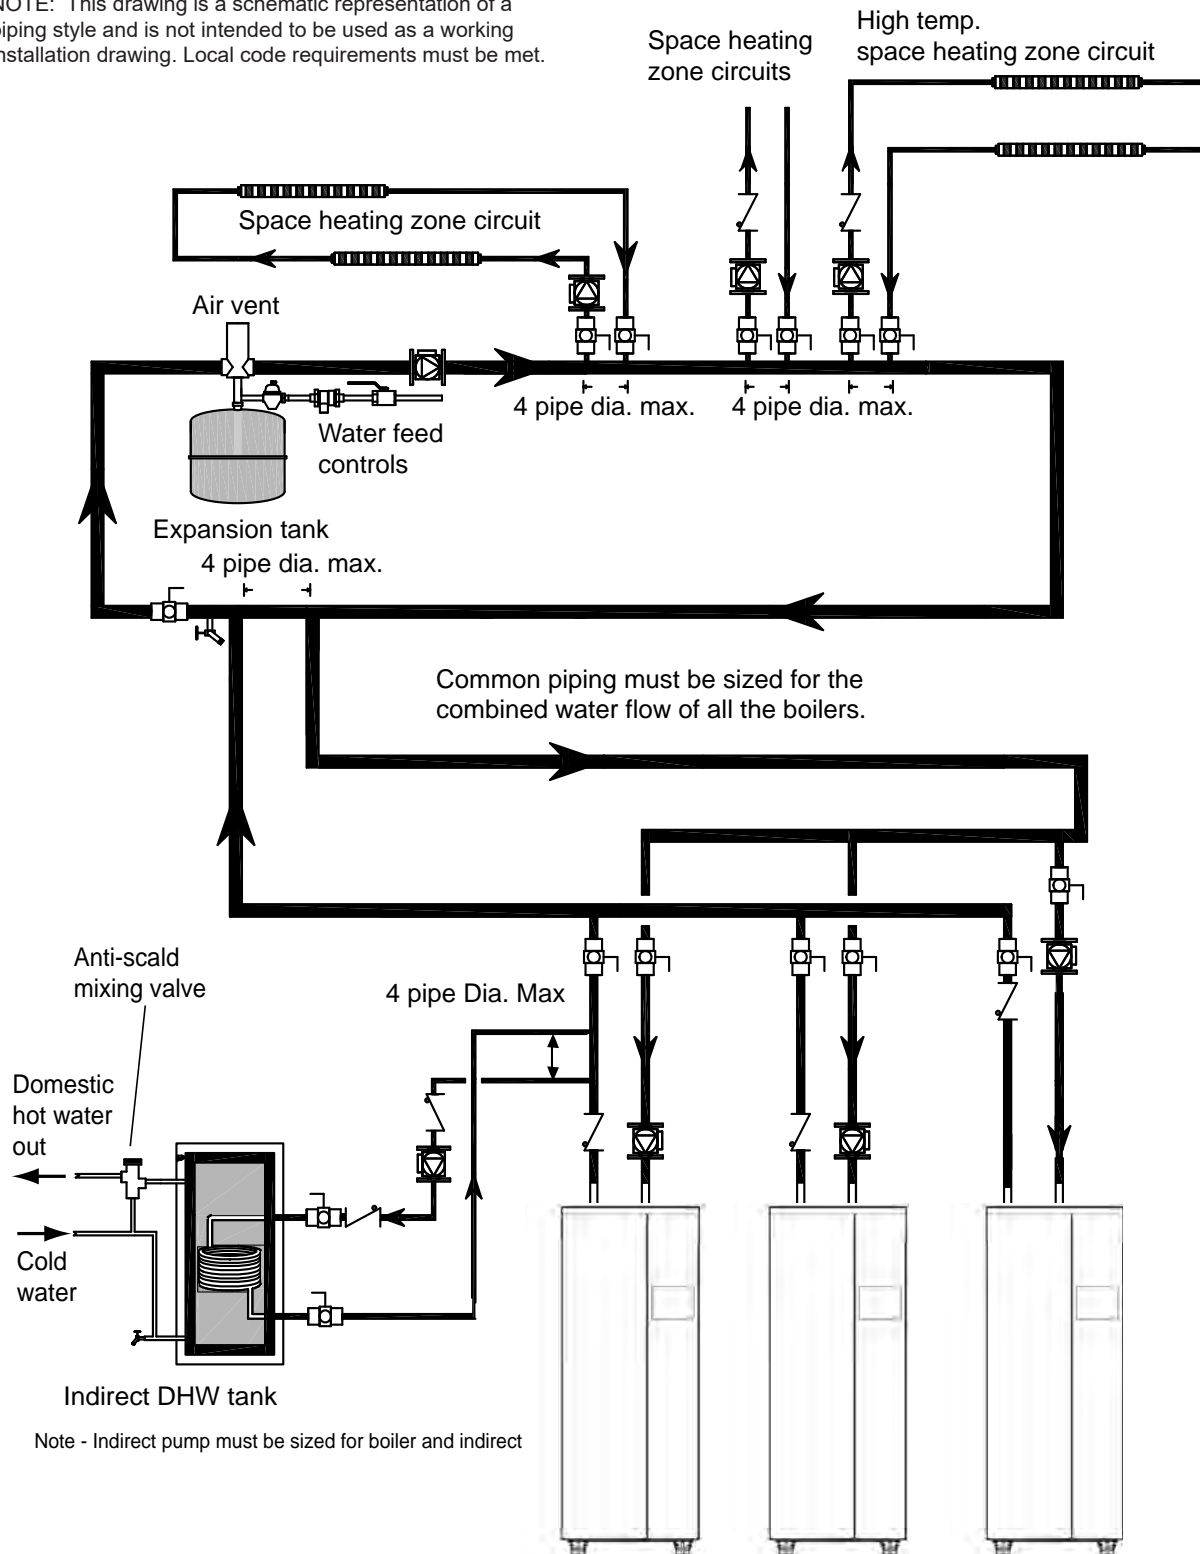

Figure 11. Boiler Piping — Multiple Boilers, Indirect DHW Off of One Boiler
Suggested piping diagrams are shown in Figure 8 through Figure 11. These diagrams are meant only as guides. Components required by local codes must be properly installed.
**This unit's efficiency is higher with lower return water temperatures.** Therefore, to get the best low return temperature with multiple boilers, pipe as shown in Figure 10 and Figure 11 on page 32.
Figure 8 on page 29 through Figure 11 on page 32 show suggested piping configurations for boilers. These diagrams are only meant as guides. All components or piping required by local code must be installed.